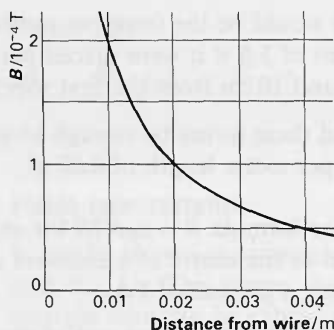

Figure H82
22(R) The graph in figure H82(a) shows the variation with distance of the magnetic field strength (B) near a long straight wire carrying a current of 10 A. The small circle with a cross in it – figure H82(b) – to the right of the graph, represents the wire carrying the current perpendicularly into the paper.
- a** Show, by drawing on a copy of figure H82(b), the shape and direction of the magnetic field near the wire.